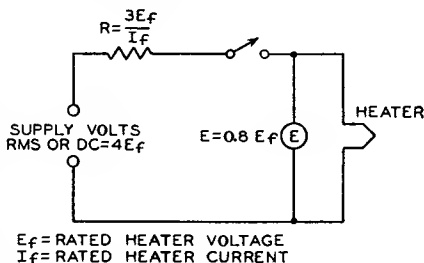

Fig. 94
**Heater warm-up time** is defined as the time required for the voltage across the heater to reach 80 per cent of the rated value in the circuit shown in Fig. 94. The heater is placed in series with a